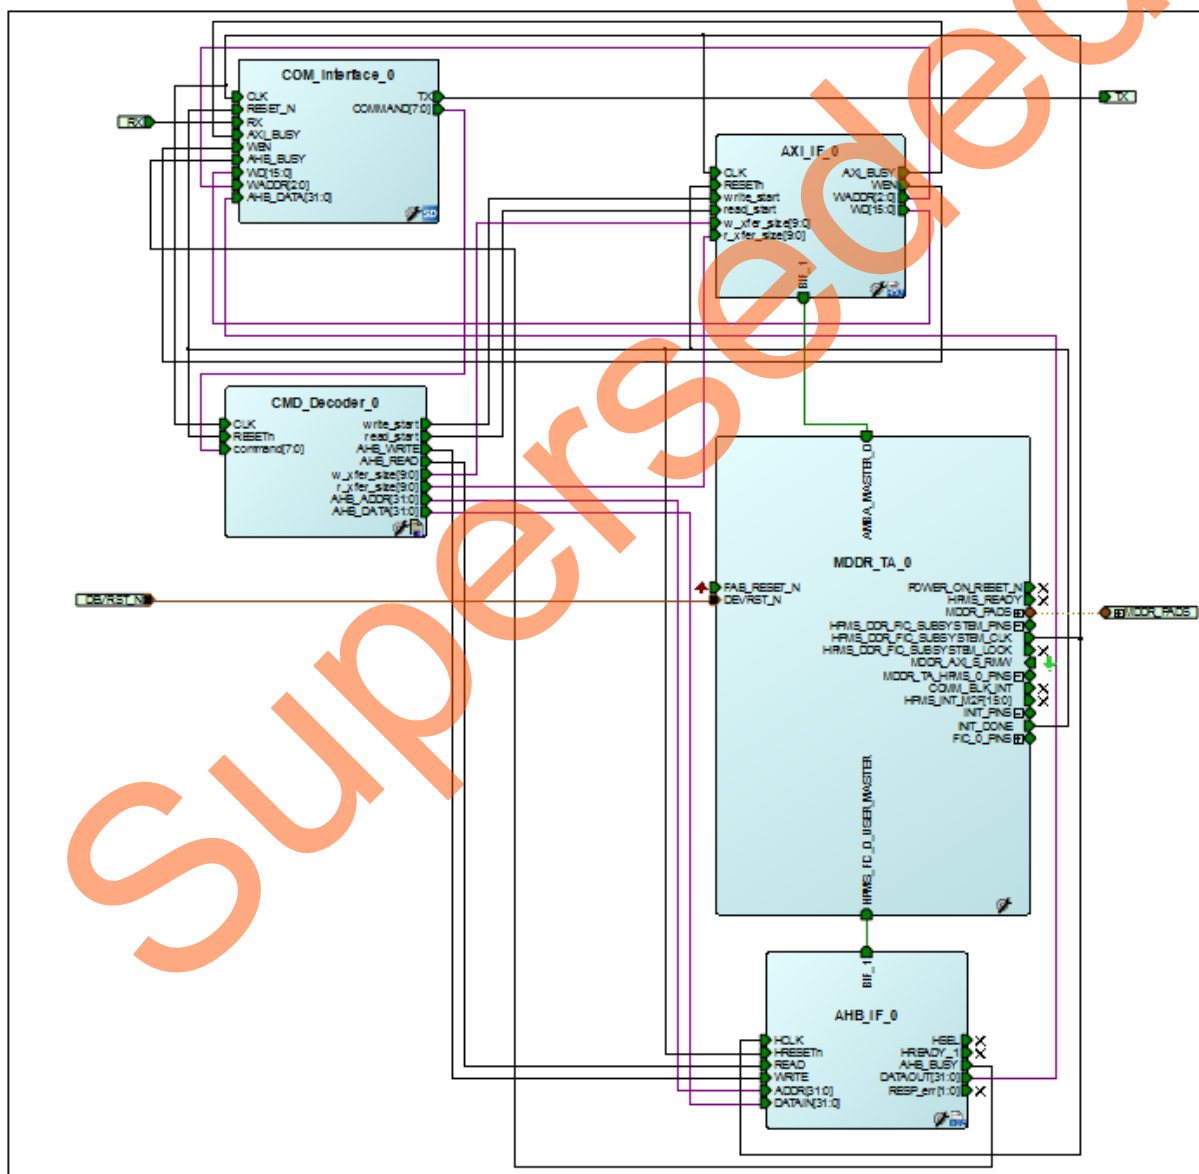

Figure 3 • IGLOO2 Top-Level SmartDesign
Figure 3 shows the IGLOO2 top-level SmartDesign.
12. Instantiate the custom logic for AXI master, AHBL master, Command decoder, and COM interface to make the connections as shown in Figure 3 on page 8.